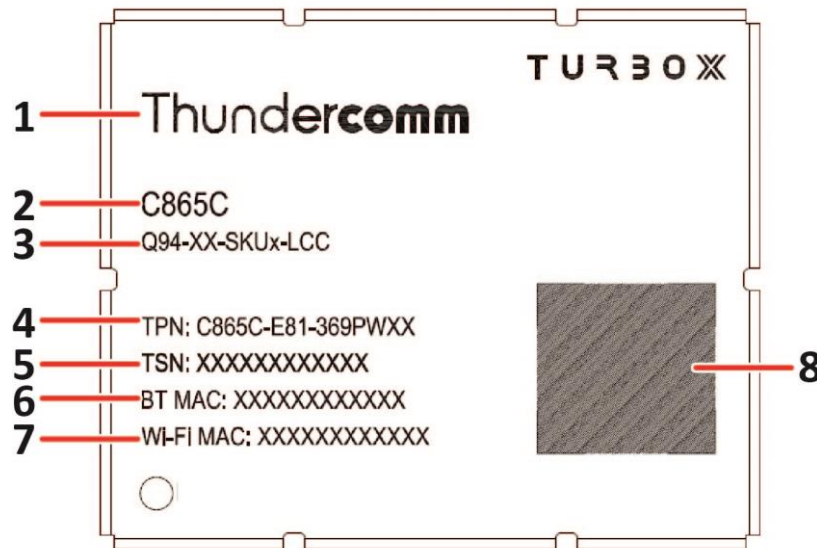

Figure 1-3. Example: C865C
- Figure 1-3 is for reference only and may vary with the specific module.